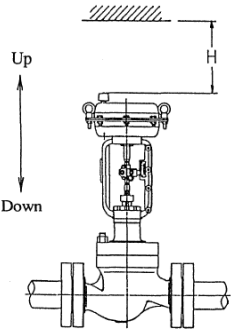

Fig. 3.
- As a rule, the position of the installed control valve should be vertical as illustrated in Fig. 3.